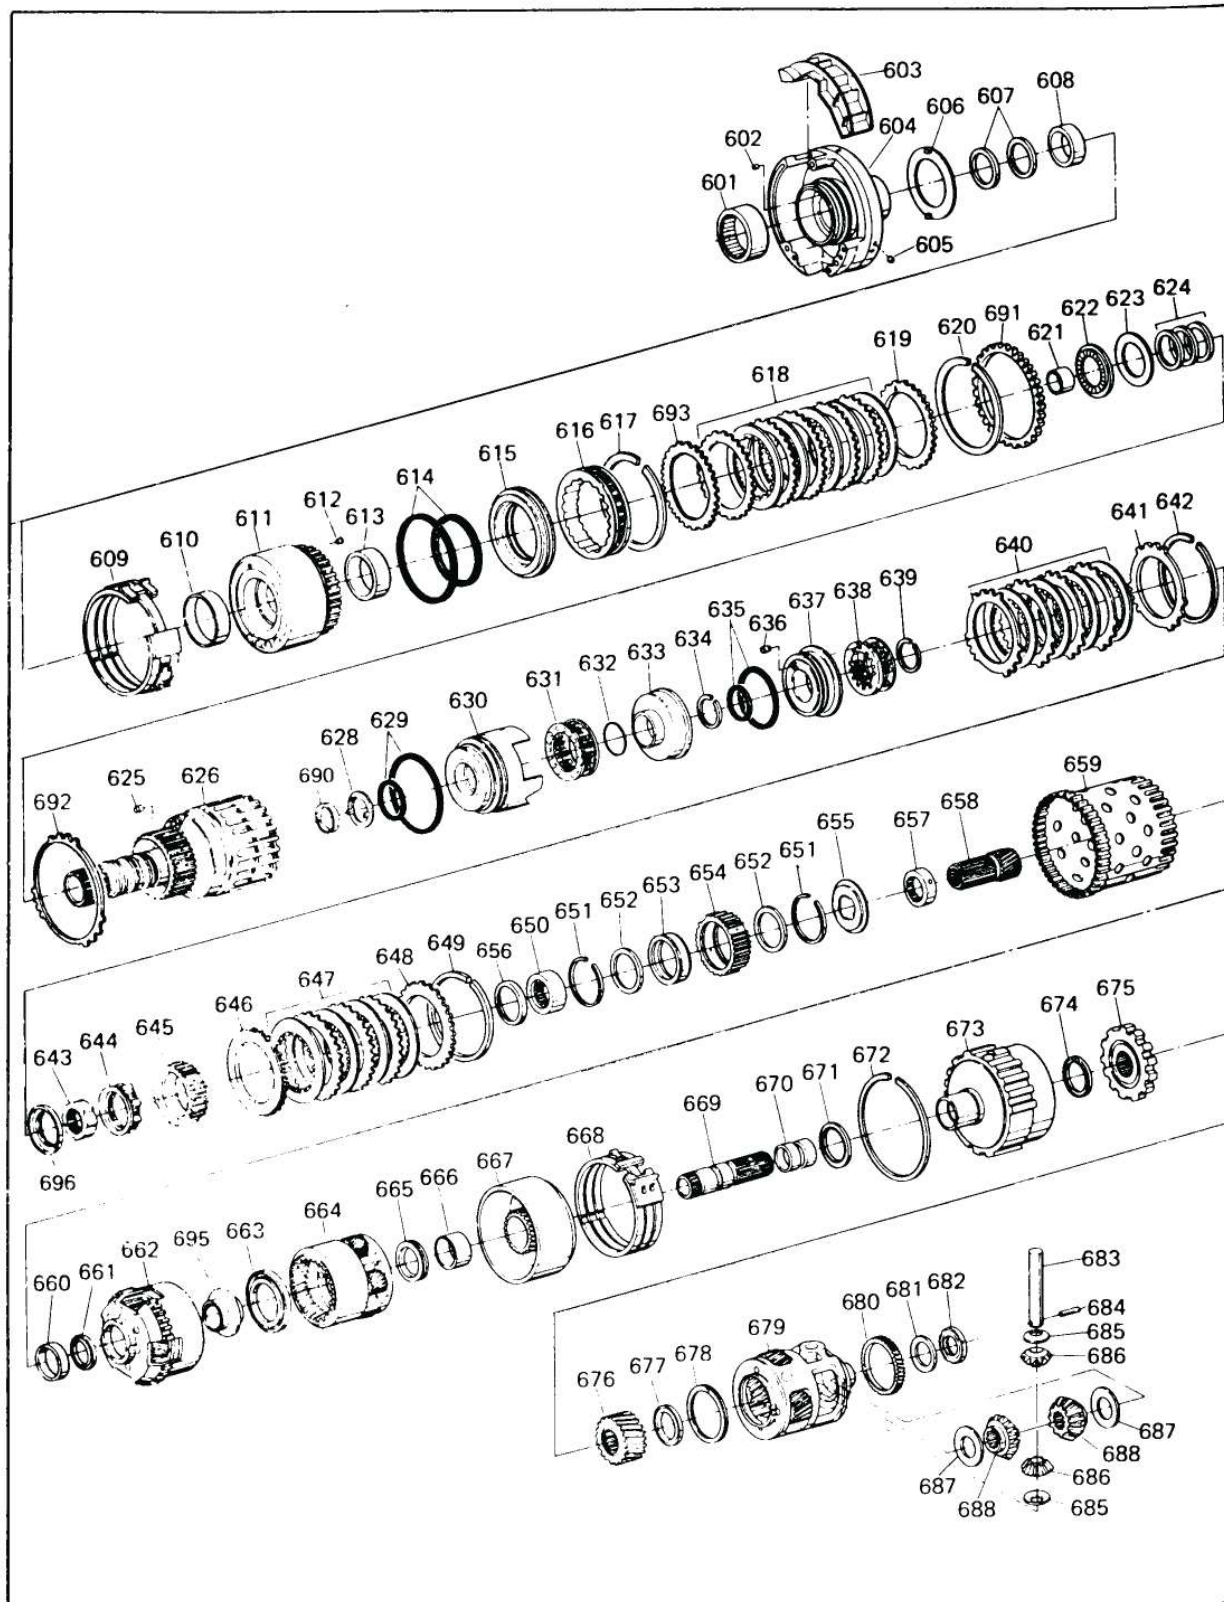

Figure 33
- 5) Reverse Reaction Plate(692) - Eliminated. If the redesigned backing plate assembly is used, you can eliminate the reverse reaction plate(692) Figure 33.